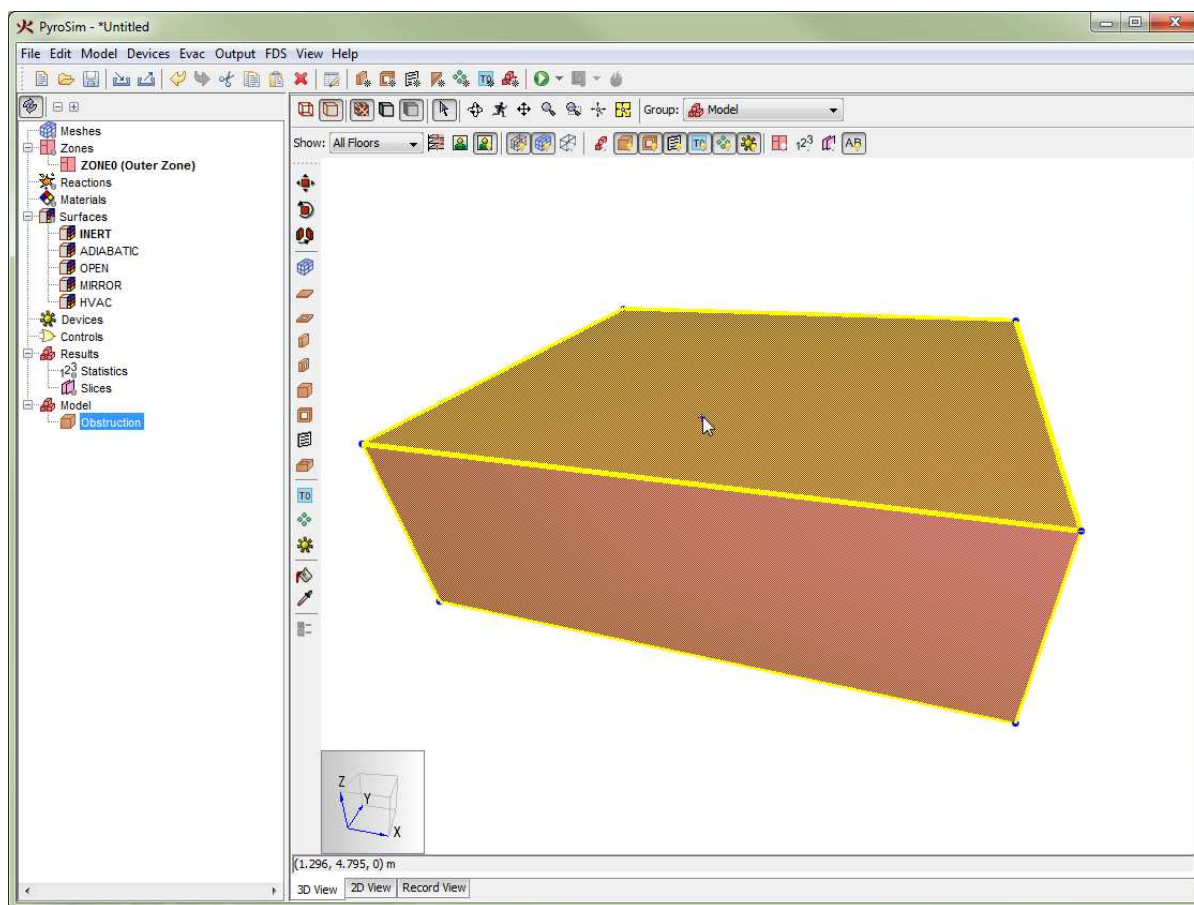

Figure 95. A highlighted face handle
3. Hover the cursor over the desired handle. If the handle is a dot, it will turn yellow. If the handle is a face, the entire face will turn yellow as shown in Figure 95.